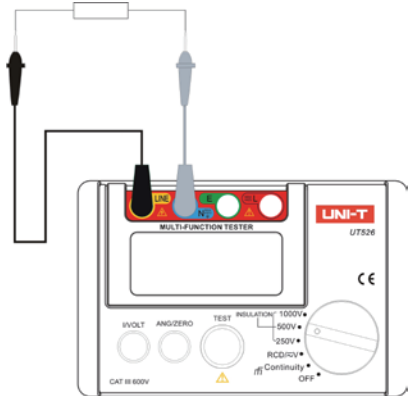

Figure 5
**XI. Measuring Insulation Resistance (See Figure 5)**